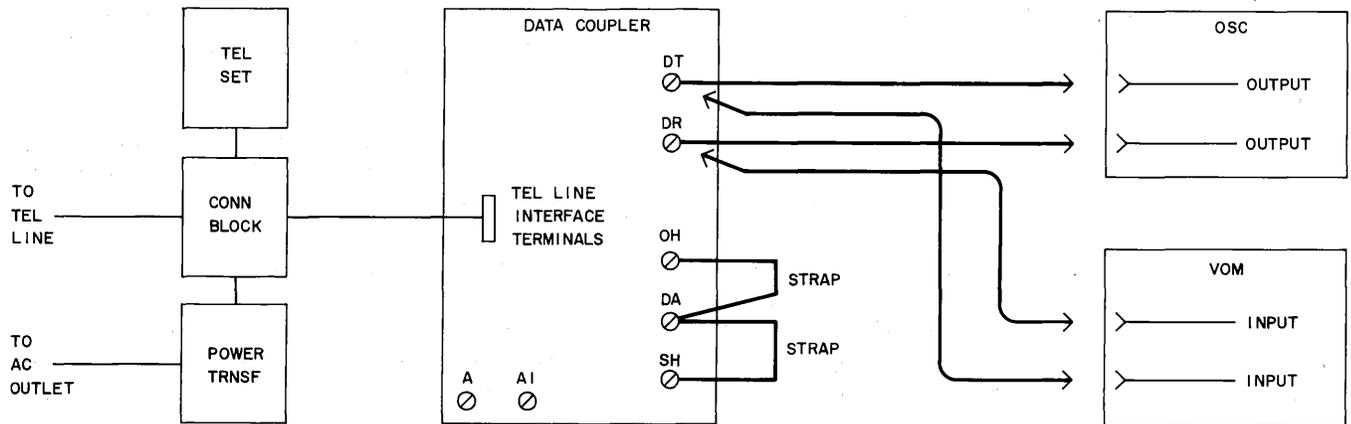

Fig. 17—Test Equipment Connections for Impedance Matching Test
- (1) Set the oscillator for a 1000-Hz frequency and a 600-ohm output impedance.
- (2) Select the proper scale on the VOM to measure -5 dBm.
- (3) Connect the test equipment and straps as shown in Fig. 17.
- (4) Adjust the oscillator output level to obtain a -5 dBm indication on the VOM.